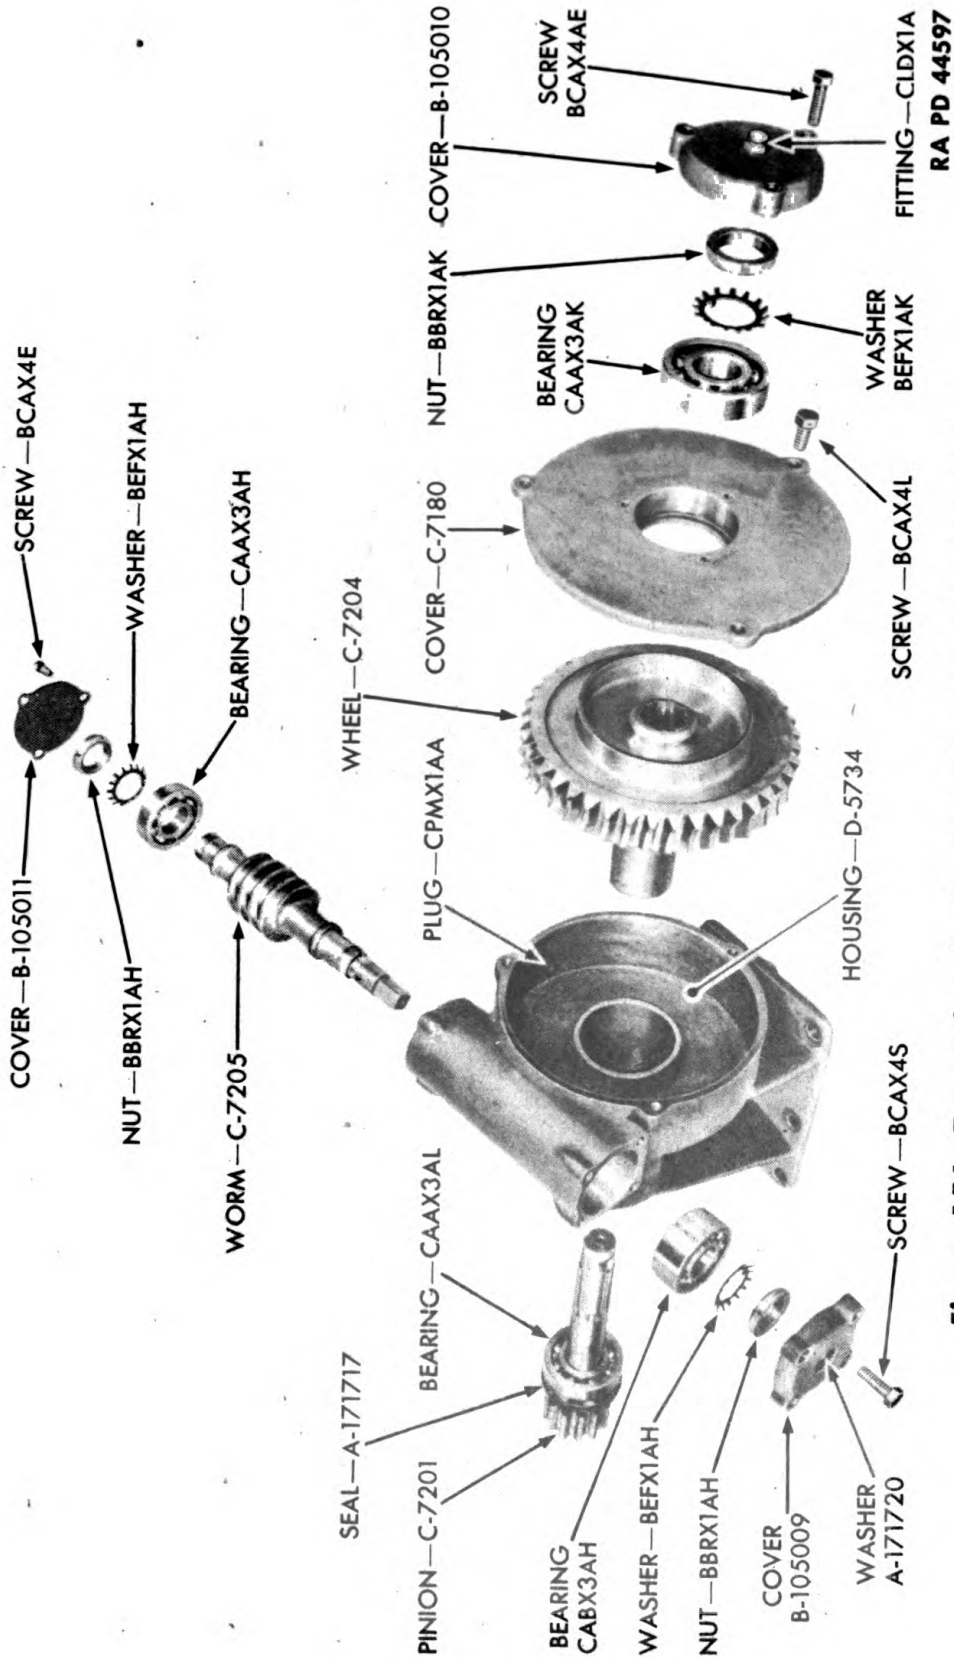

Figure 156—Traversing Mechanism Assembly—Exploded View
(3) Straighten lug on washer BEFX1AK. Remove nut BBRX1AK with traversing worm wheel nut socket wrench B105326. Remove washer (fig. 156).
(4) Remove safety wire BFWX1C and three screws BCAX4L from cover C7180. Lift cover from housing D5734. Bearing CAAX3AK comes away in cover (fig. 156).
(5) Remove pinion C7201 from housing D5734. Bearing CAAX3AL and seal A171717 will come away on pinion (fig. 156).
(9) Straighten lug on washer BEFX1AH (fig. 156). Remove nut BBRX1AH with traversing worm nut socket wrench B105313 and handle B108566.
(11) Remove bearing CABX3AH from housing D5734 (fig. 156).
worm wheel pinion (fig. 156). Pack the bearing with **GREASE**, general purpose (seasonal grade), working grease well into balls and races. Coat the pinion shaft and splines with grease. Insert the pinion, seal, and bearing through the traversing gear housing until the bearing **CAAX3AL** is seated.